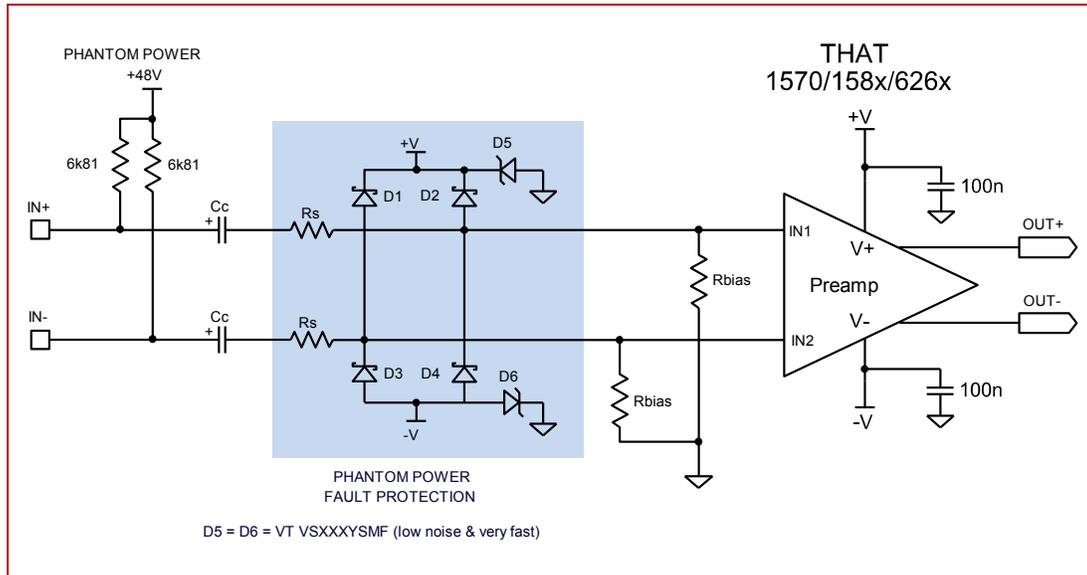
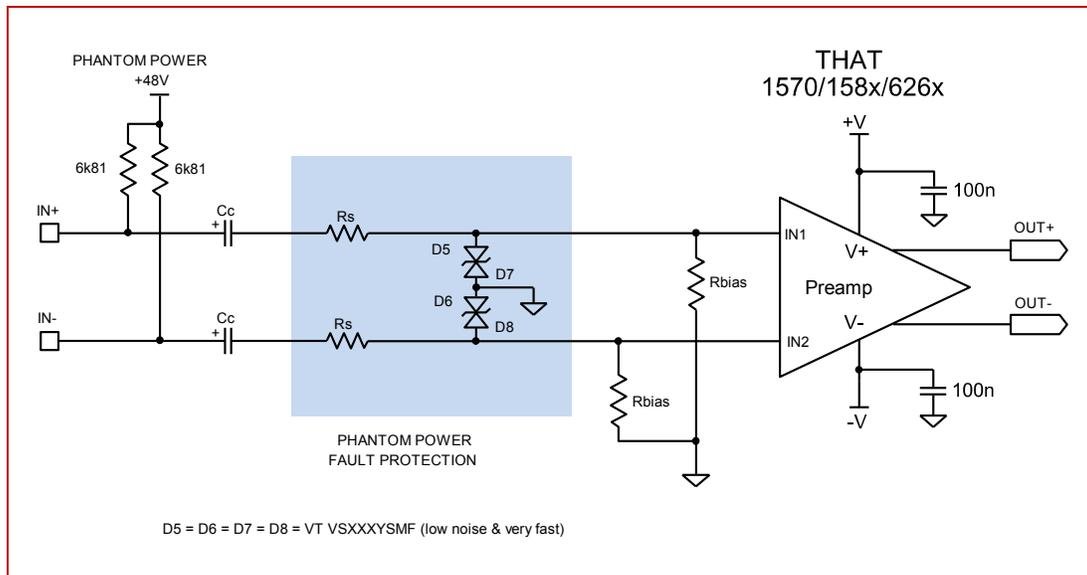

Figure 4. TVS on the negative rail [2].
Figure 5. TVS on back-to-back configuration from the inputs to ground.
There are two possible locations for a TVS: on the power supply, to clamp the power rail (Figure 4,) and on the input lines to clamp the input swing (Figure 5.) In the first case, during the phantom power fault, the current flows from the coupling capacitor, through the typical $10\ \Omega$ protection resistor, protection diode to negative power supply, TVS and ground. The voltage at the input pin is the TVS's breakdown minus a protection diode drop. For instance, if the TVS breakdown range is 19 V to 21 V, we can expect $-20\ \text{V}$ to $-23\ \text{V}$ at the input. Therefore, the power supply voltage, protection diode and TVS specifications have to combine for a successful implementation [5]. This can be a challenge when using high voltage power supplies.
For high voltage power supplies, moving the TVS's to the input lines makes more sense (Figure 5.) The stray capacitance is the first concern that comes to mind for THD degradation. However, we've tried this approach and the THD was not affected at all*. The phantom power fault current has a shorter path now, coupling capacitor, the $10\ \Omega$ resistor and TVS to GND. The negative power supply doesn't move at all in this case because the current doesn't go that way. Another limitation is the maximum allowable input swing. Fortunately, we can accommodate the TVS and large input swings because the minimum input voltage swing is $-V + 3.7\text{ V}$ (THAT1580,) otherwise the input will clip. For ± 17 V power supplies it means that the minimum negative swing is -13.3 V. Going back to the TVS datasheet we can use VTVS14ASMF which has a working voltage of 13.8 V and a breakdown range of 15.4 V to 17 V. This part is more than adequate to protect the inputs at high power supply voltages.
* IMPORTANT: the THD was measured with a specific TVS, the Vishay VTVS14ASMF. Other TVS's may perform differently, so the user must check the THD for any TVS used in this configuration (Figure 5.)